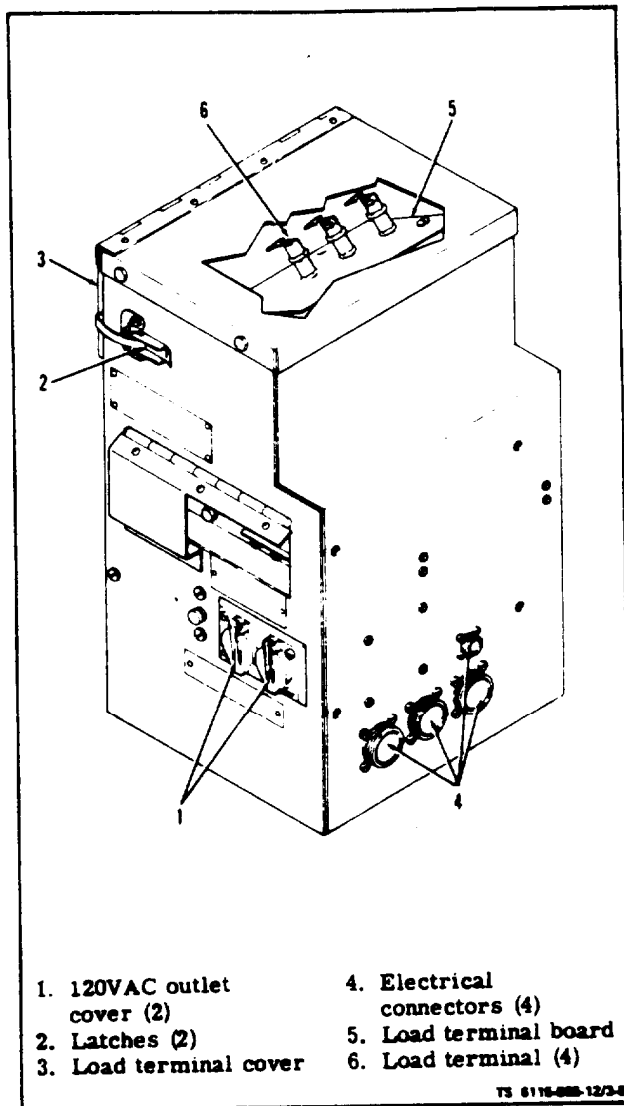

Figure 3-8. AC Output Control Box Assembly
a. Inspect (see figure 3-8).
(1) Control Box Assembly. Check box assembly for cracks, dents, or other physical damage. Inspect to see that covers (1) for both 120 volt ac outlets operate properly (MEP-003A only). Check latches (2) securing load terminal board cover (3). Check to see that cover (3) for load terminal board opens and closes properly. Check to see that electrical connectors (4) are clean and securely mounted.
(2) Load Terminal Board Assembly. Check condition of load terminal board (5) and load terminals (6) for cleanliness and tightness. Make certain that the load leads are secured to terminals.